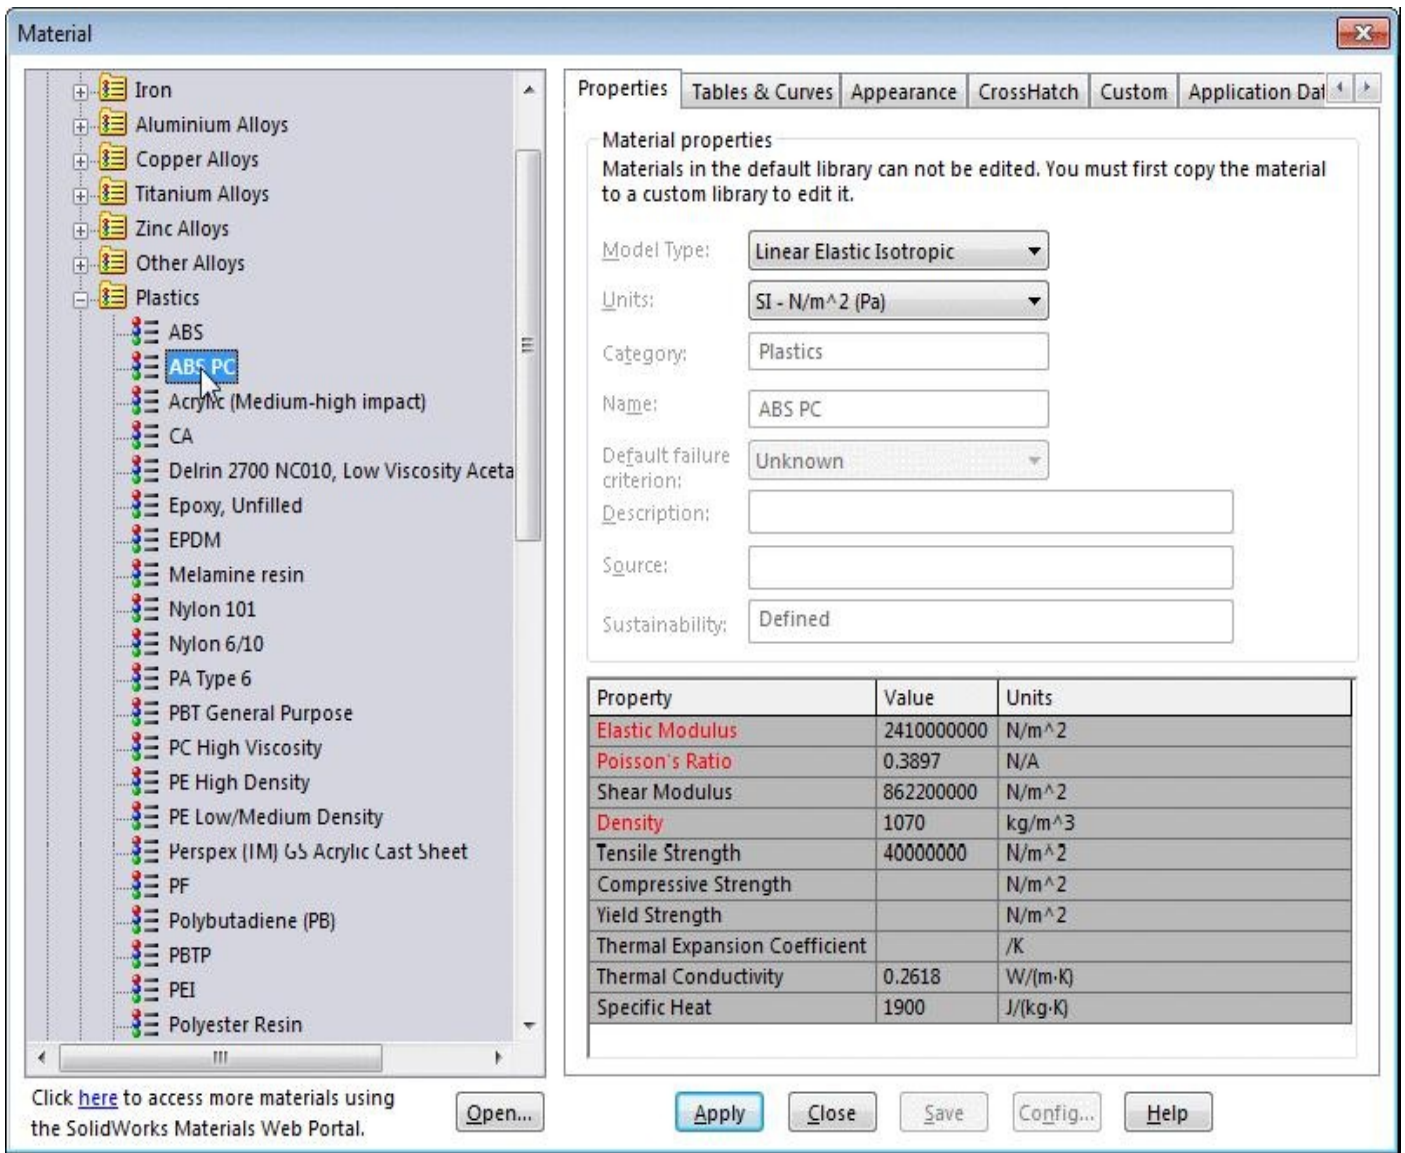

Figure-2. Material dialog box with material to be selected
- Select the **ABS PC Material** from the **Plastic** category in the left; refer to Figure-2.